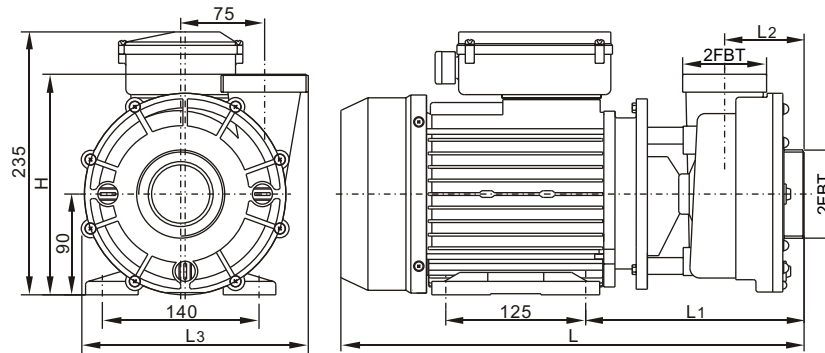

Fig.3
– Pumps must be level installed, Dimensions and position of the pump for supporting and fixing the pump within this space (Fig.3).